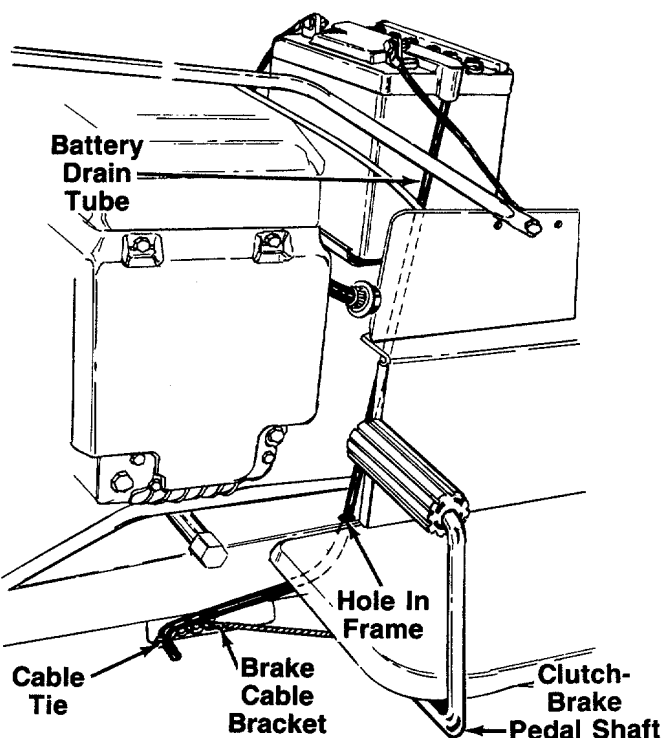

FIGURE 8.—44" Deck Shown
- Route the battery drain tube down through the hole in the frame, then forward to the brake cable bracket. See figure 8.
- Secure drain tube to brake cable bracket with the cable tie as shown in figure 8. Trim excess end of cable tie.